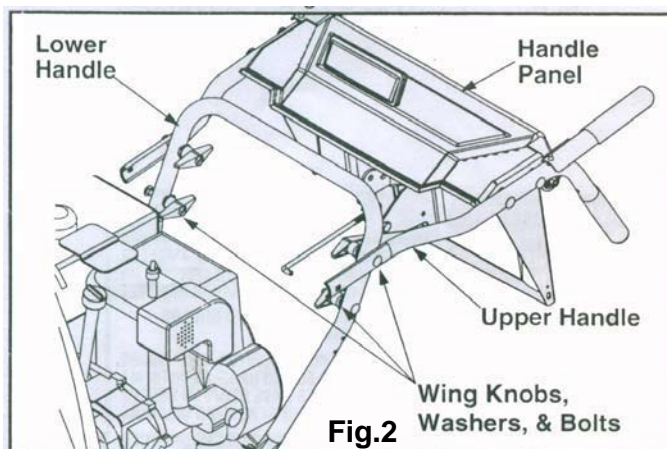

Fig.2
3. Secure the upper handle and lower handle with the two plastic knobs, cupped washers and carriage bolts previously removed and tighten the upper two plastic knobs. See Fig.2